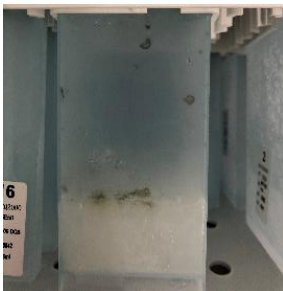

Figure 10-2: Dark green crystals in well No.10
- If dark green crystals appear in well No.10 (see Figure 10-2), it is precipitation of raw materials of the reagent in well No.10. This is a normal phenomenon.